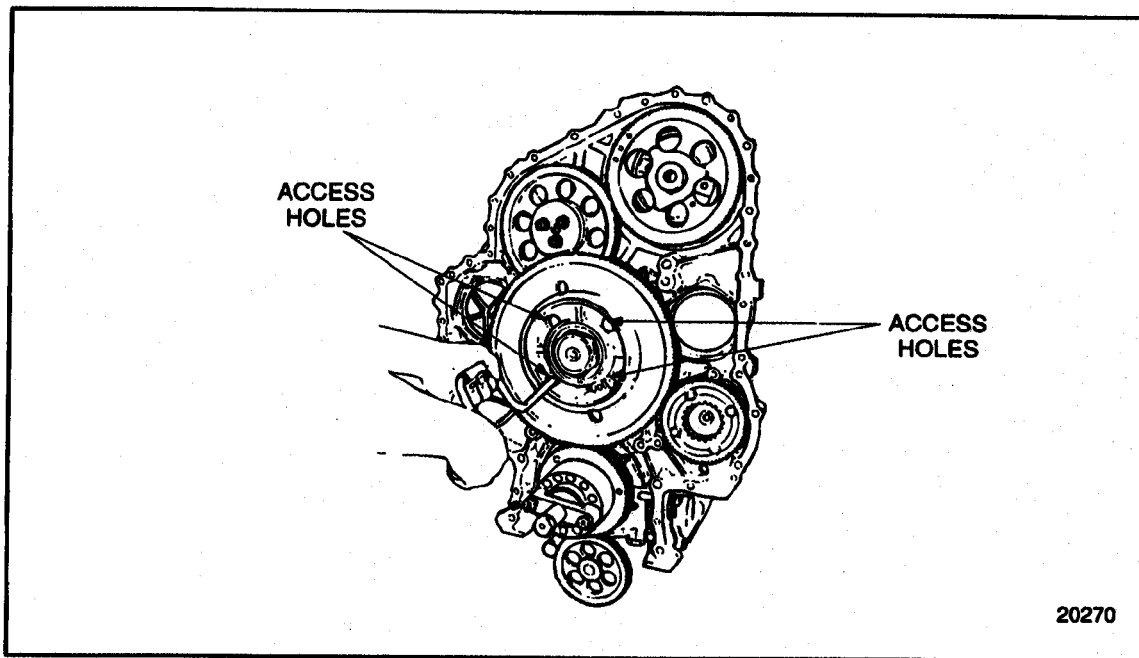

Figure 1-370 Removing Bull Gear and Camshaft Idler Gear Hub
7. Working through the four access holes in the bull gear and camshaft idler assembly, remove two of the four bolts that secure the bull gear and camshaft idler gear hub to the cylinder block. See Figure 1-370.
4. Install thrust plate with the relief at the bottom. See Figure 1-370.